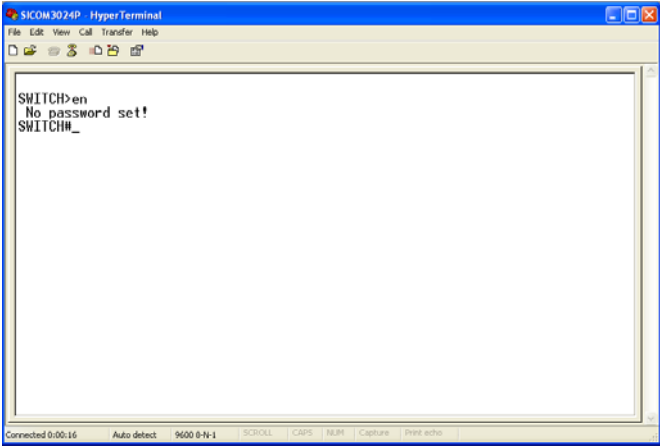

Figure 24: Command line interface
Step 6: Click OK to enter the switch command line interface as shown in Figure 24. Users can input commands to carry out corresponding operation, as shown in Table 9.